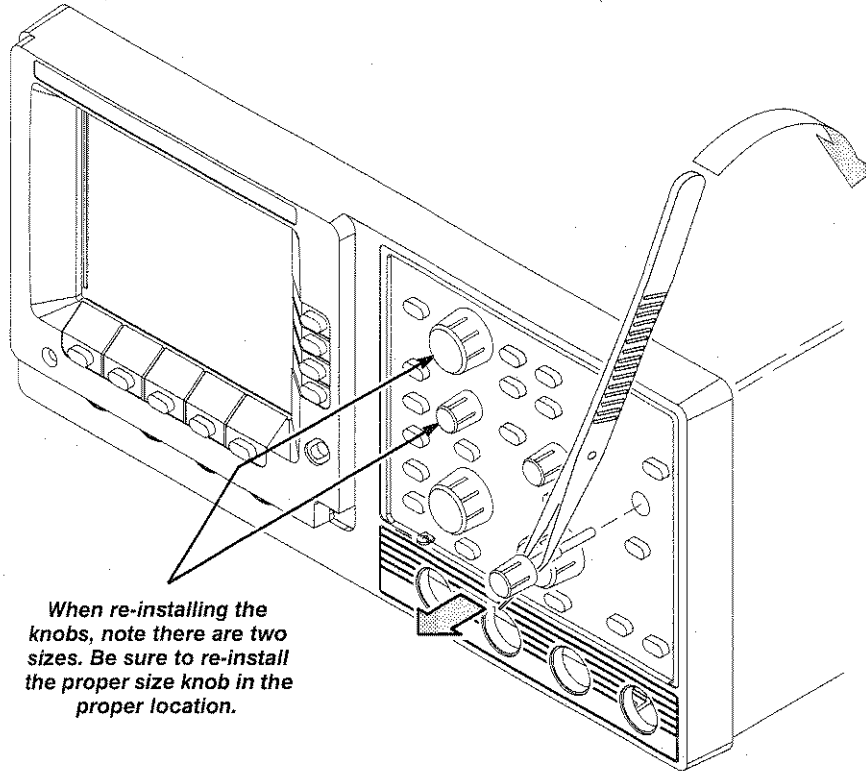

Figure 8-3: Knob and Shaft Removal
2. Insert the angle-tip tweezers between the knob and front panel and use them to remove the knob and attaching shaft (see Figure 8-3).